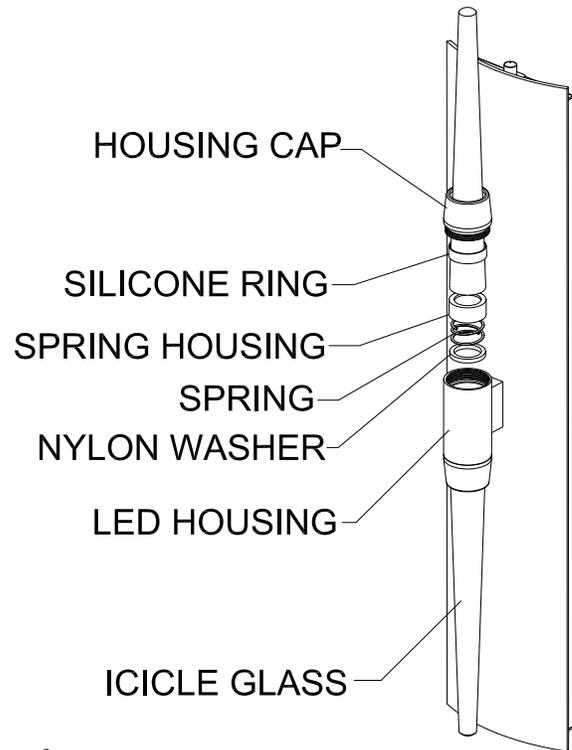

Figure 2
Step 1 Rotate the housing cap in a counter clock-wise direction and remove from the housing. Use care when removing or installing the glass accents as there are components that are designed to keep the glass in position that could potentially fall out or become lost during the installation of the glass. Please note that the nylon washer insulates and protects the LED component. Make sure that the washer is in place before installing the spring, housing or glass accent. (See Figure 2)